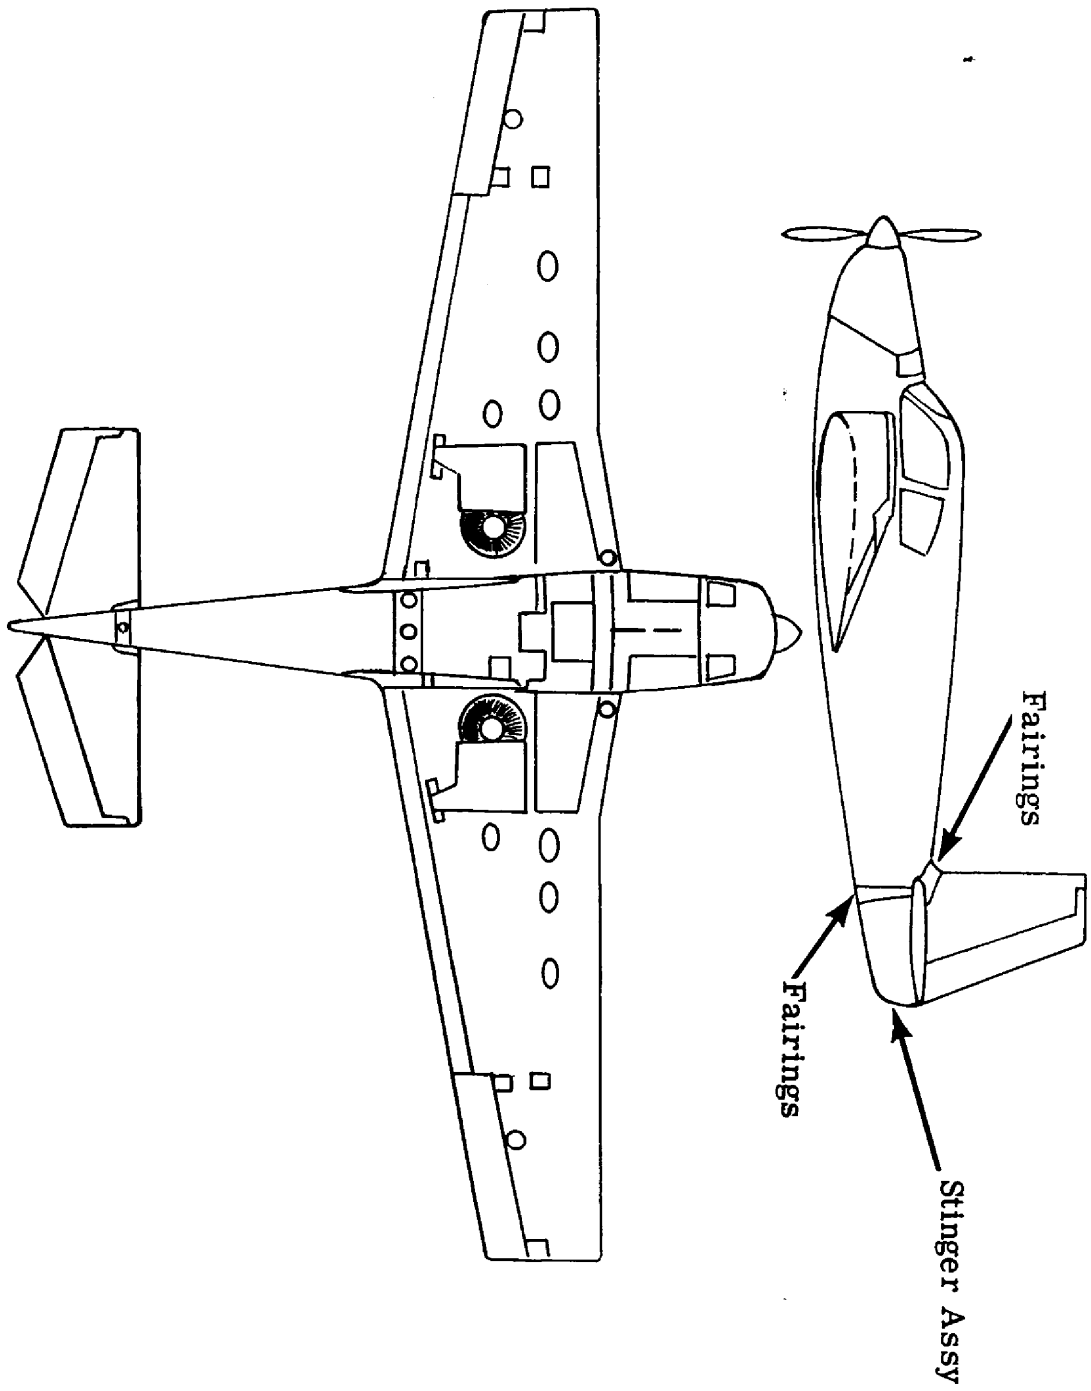

FIG.5 ACCESS DOORS & PANELS
2. Remove all the wing and center section access doors and panels. (Refer to Figure 5.)